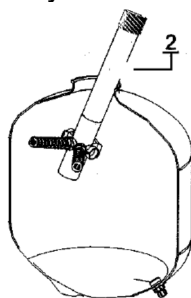

Fig. 12
1. Insert diagonally the tube with the diffuser body inside the *filter* as shown in the Fig. 12 and subsequently mount the plugs on the diffuser body.